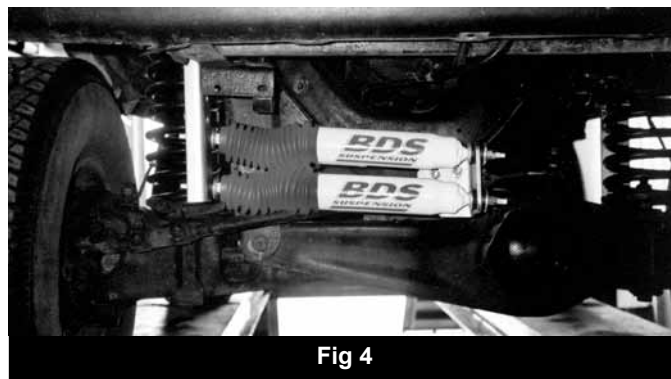

Fig 4
10. Adjust the tie rod bracket so that the cylinders are tight against both brackets and setting at mid travel (4" open). Install the outer stabilizer bushings, washers, and nuts and tighten securely (Fig 4).